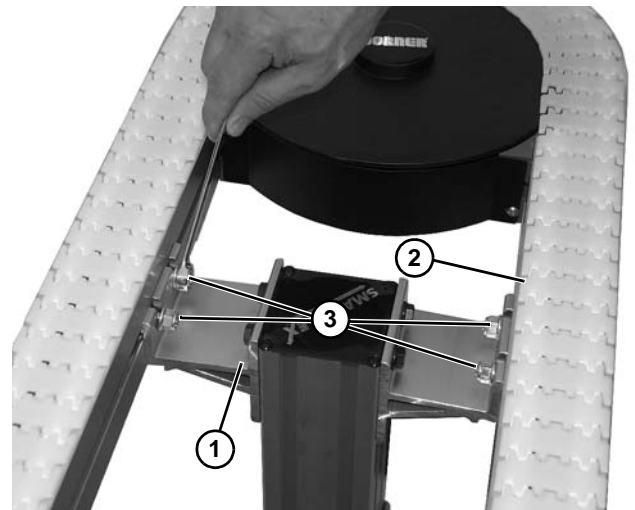

Figure 6
1. Install 180° curve mount (Figure 6, item 1) onto 180° curve (Figure 6, item 2) with four socket head screws (Figure 6, item 3) and nuts.
Be certain that slots on end of bolts (Figure 6, item 3) is close to vertical when finished tightening nut.